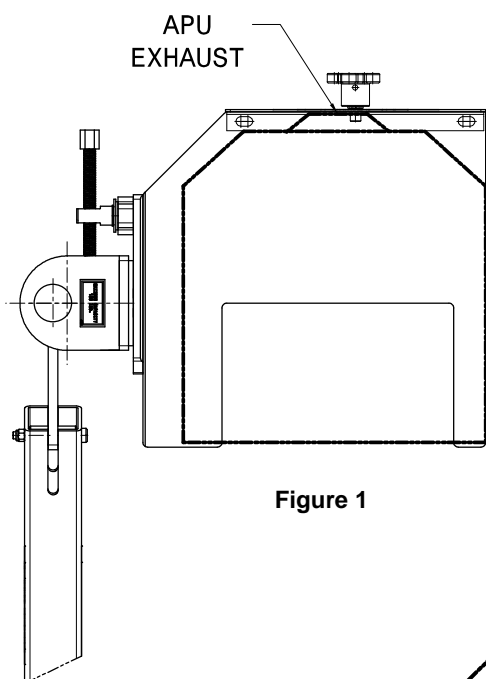

Figure 1
2. Place Lear 45 APU in K-4664 as shown in Figure 1. Tighten clamp on APU. Install through baggage bay door